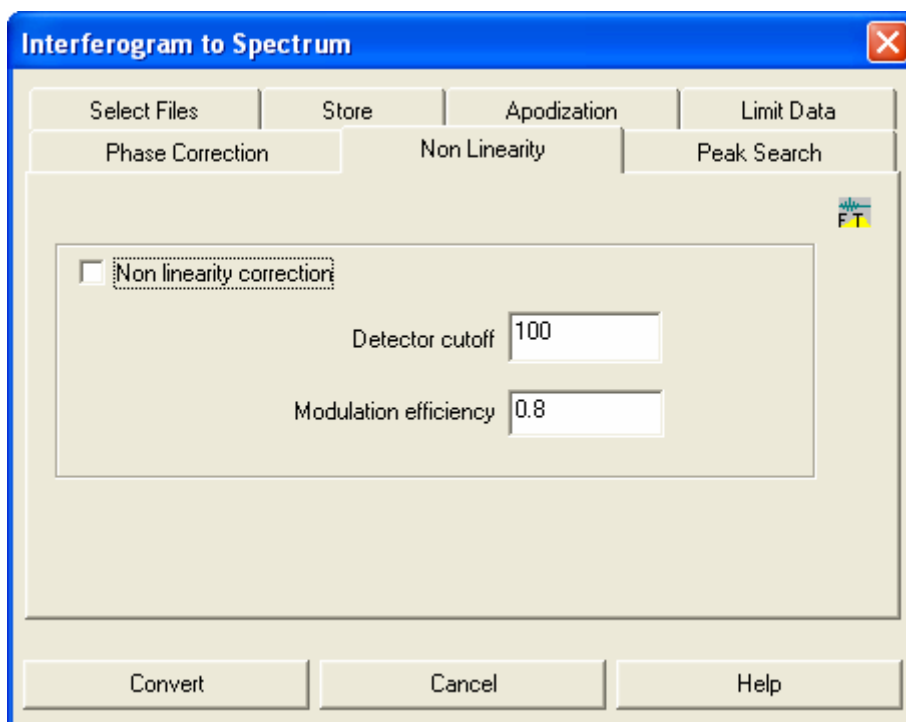

Fig. 23: “Interferogram to Spectrum” dialog window - “Non Linearity” page
- We recommend to do NO “non linearity correction” as shown in fig. 23.